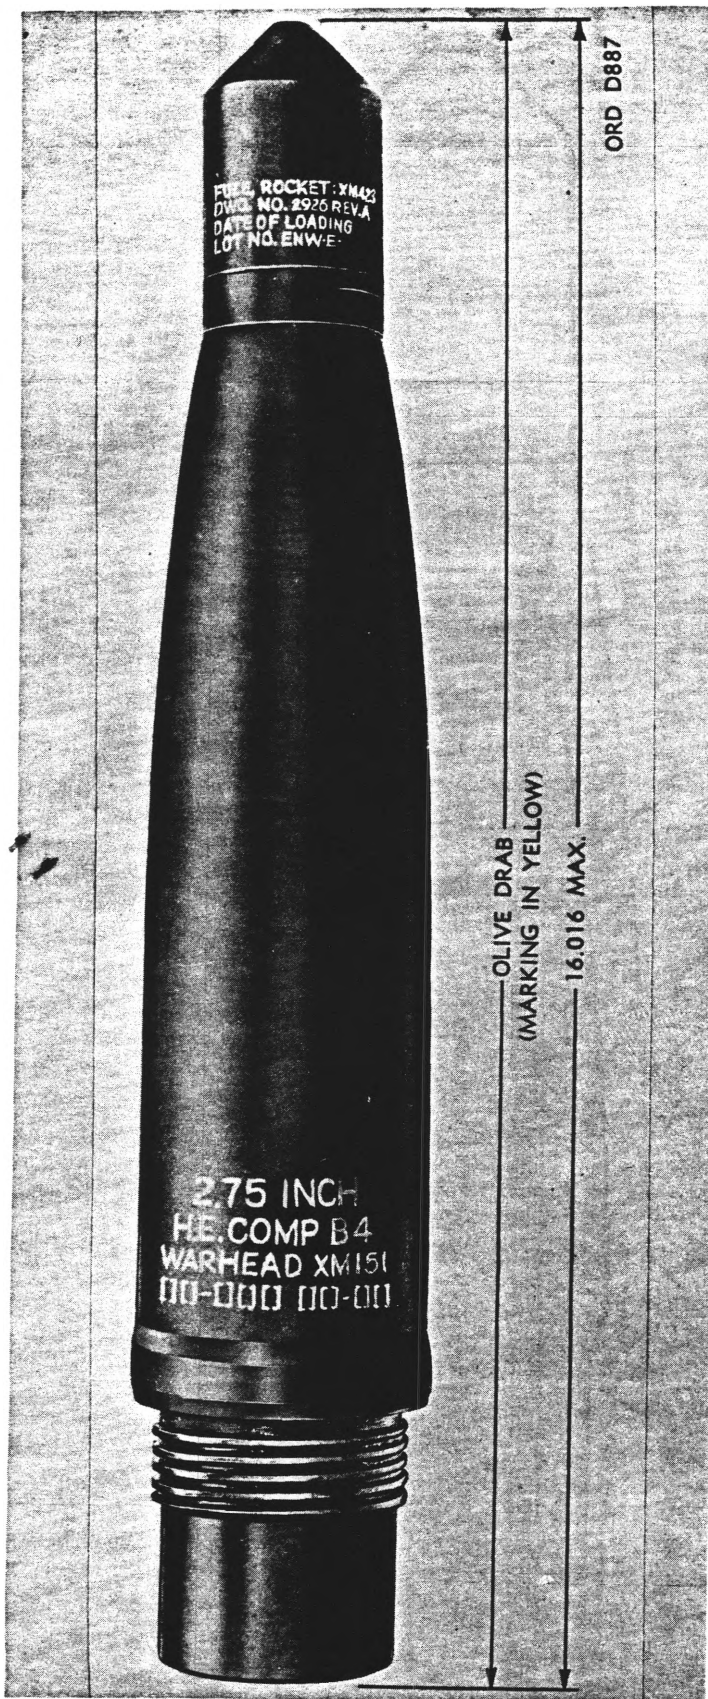

Figure 2. Warhead 2.75-inch Rocket HE., XM151 with rocket fuze PD XM 423E1.
(2) *High-explosive (HE) warhead XM151.* This high-explosive warhead (fig. 2), consists of a pearlitic, malleable iron casing containing a charge of COMP B4 explosive. The warhead is internally threaded at the nose to receive the fuze and externally threaded at the base to engage the rocket motor.